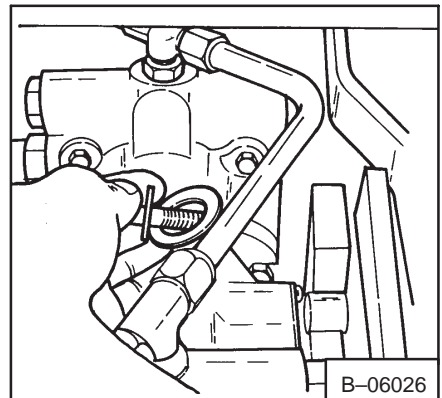

Fig. 3-18 Pintle Lever Bolts
3. Remove the nuts and bolts at the pintle levers (Fig. 3-18).